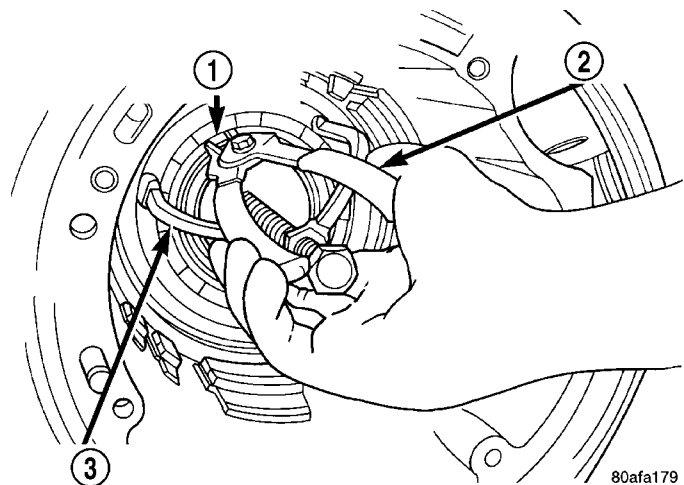

Fig. 74 Install Snap Ring
(57) Compress low/reverse piston return spring and remove snap ring (Fig. 74).